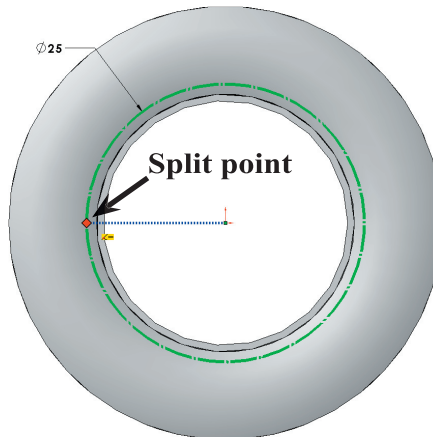

Fig. 15
Step 2. Click **left quadrant point of circle** to split at that point, **Fig. 15**. The point should be directly to the left of the Origin.